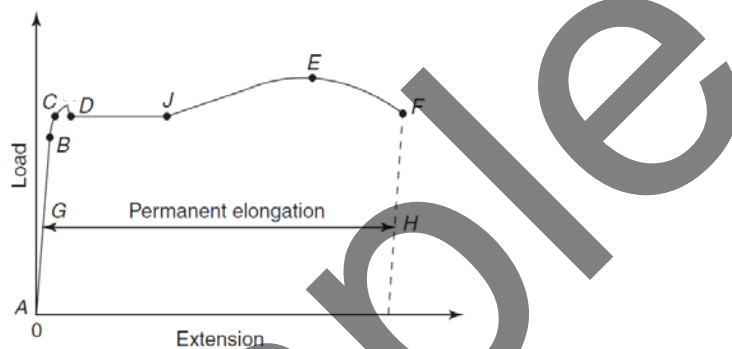

Fig.1.1: A tensile test of mild steel
Fig. 1.1 shows a tensile test of mild steel; the graph can be broken down into ten important sections:
- Material C is a ductile material, similar to the mild steel used in Fig.1.1.
Young's modulus of elasticity ( $E$ ) is the ratio of stress to strain of a material. The equation for Young's modulus is shown by Eq.1.3 below. The equation only applies to the elastic region of the material (between points A and B on Fig.1.1), where  $\sigma$  is the stress and  $\epsilon$  is the strain of the material.